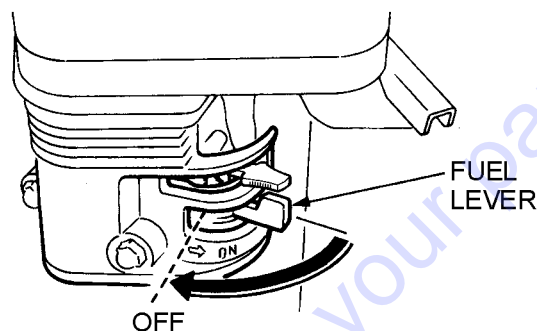

Figure 39. Fuel Valve Lever (OFF)
3. Close the fuel shut-off valve (Figure 39) by moving the fuel valve lever to the **OFF** position.